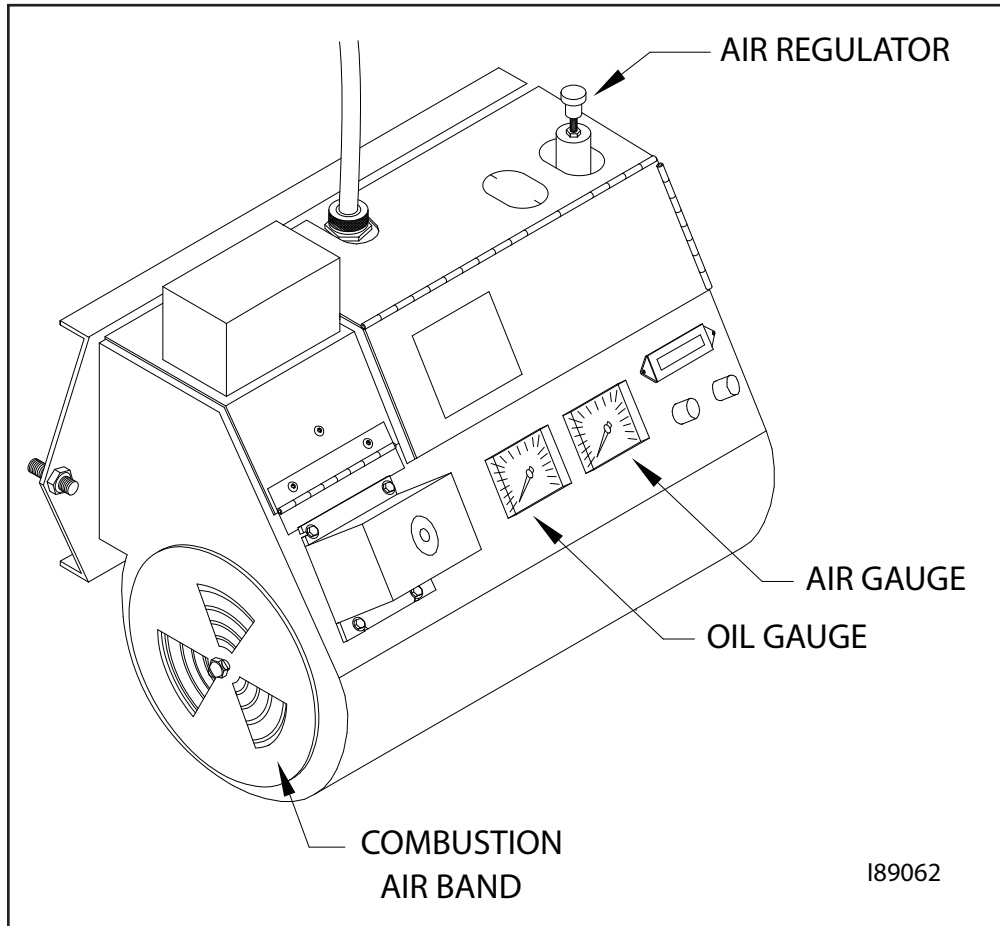

Figure 3E - Component Detail of the CB-500 Series Burner
1. Figure 3E shows an exterior view of the CB-500 series burner components. In this procedure, you will be removing the air regulator from the preheater block assembly to prepare the CB-500 series burner for use with the air compressor assembly #14336.